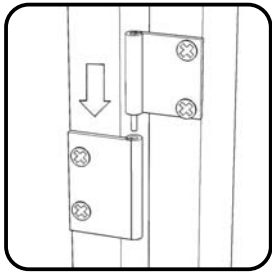

Figure 4
Attach Doors (N), (O), (P) and (Q) by sliding the door lift hinges into the side panels lift hinges. (See Figure 4)